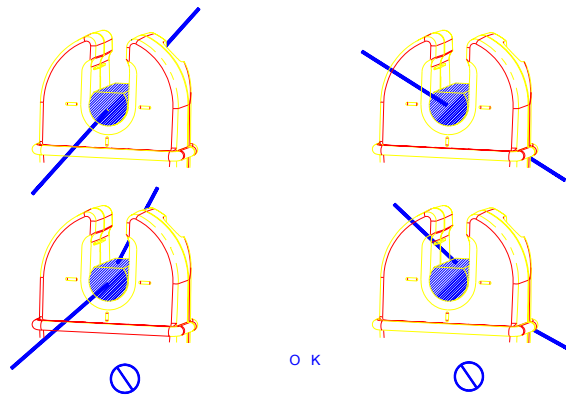

Figure 2
3. Place the conductor anywhere within the sensor zone as shown in the shaded areas of Figure 2.